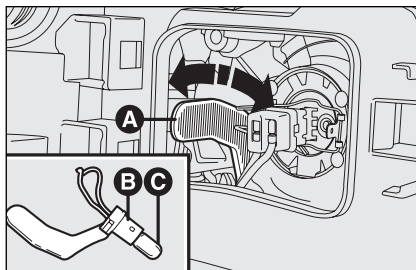
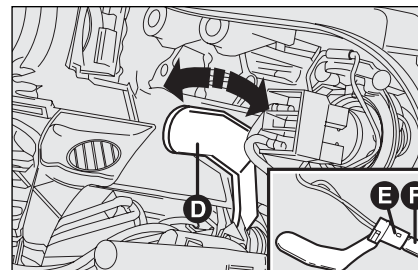

fig. 28
fig. 29
- using the extension **A**-**fig. 28** or **D**-**fig. 29**, turn the bulb holder **B**-**fig. 28** or **E**-**fig. 29** clockwise and counter-clockwise and then withdraw it;
- remove the bulb **C**-**fig. 28** or **F**-**fig. 29** and replace it;